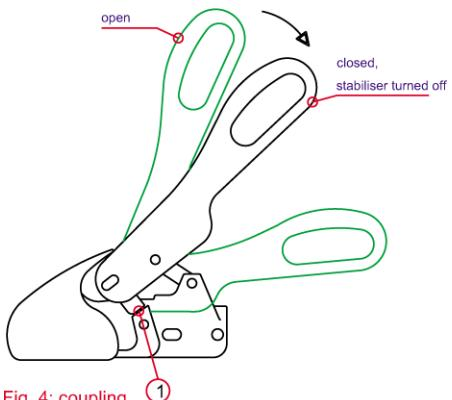

Fig. 4: coupling 1
The opened ball coupling is placed on the coupling ball of the towing vehicle (Fig. 4).
The support load and possible additional loading of the drawbar serves to cause the ball coupling to close automatically and the side securing lugs (1) are parallel in relation to the securing surfaces on the housing (Fig. 4).
If not used for any lengthy period of time, the trailer should be parked with the ball coupling closed. For this purpose, lift up the open operating lever (Fig. 4) and at the same time pull the ball socket (movable element with friction pad – Fig. 8) forward or press the **safety ball** into the ball space and slowly close the operating lever.